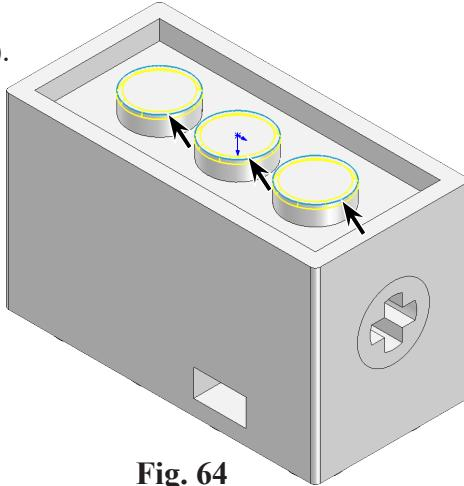

Fig. 64
Rotate view to bottom, **Fig. 64**. To rotate view, Shift click the X axis of the Reference
③ Radius  .4
click top edge of the three studs (3), **Fig. 64**